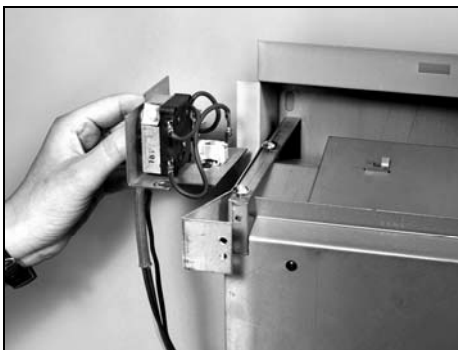

fig.10
- For wall mounting first the metal-plate which the electrical components for the convector are connected must be removed. To do this loosen the two screws of the metal-plate (two turns are enough). Lift the metal-plate slightly and move it away to the left side (fig.10).
- Replace the metal-plate with electrical components for the convector to the heater (fig.10). Make sure that the screws are the mechanical stop for the metal-plate. Fasten the two screws.